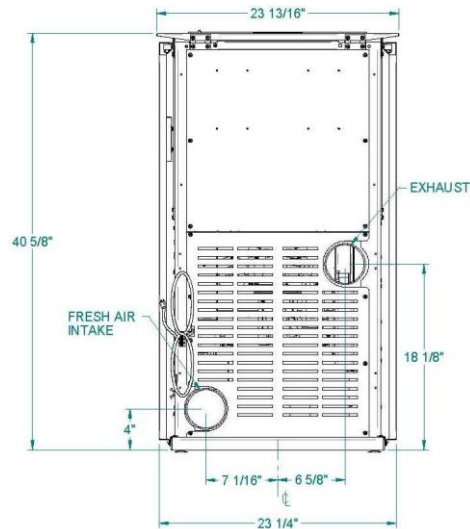
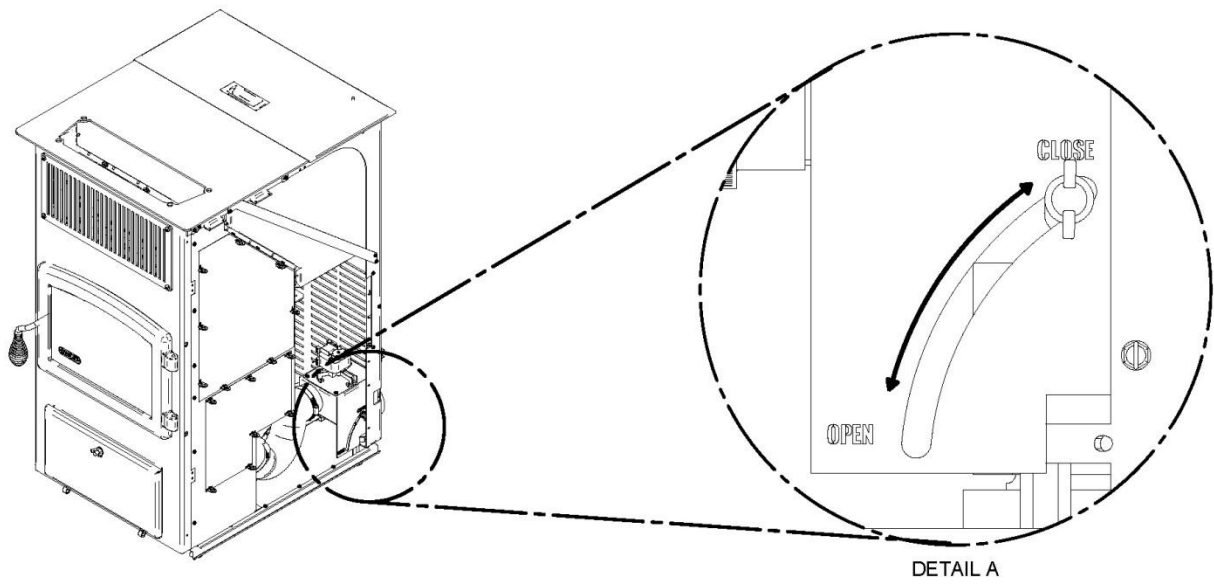

FIGURE 5
FIGURE 6.
A 4" inside diameter metallic pipe, either flexible or rigid, must be attached to the inlet at the stove's rear (refer to figures 5, 6 & 7). A rodent guard (minimum 1/4" wire mesh) must be used at the terminus (refer to figure 6). All connections must be secured and airtight by either using the appropriately sized hose clamp and/or UL-181-AP foil tape. Also make sure that the fresh air damper is open while the stove is running. The fresh air intake damper is located at the back of the stove right hand side (refer to figure 6.).
2. Locate position of hole in wall; directly behind stove exhaust vent (refer to figure 5).